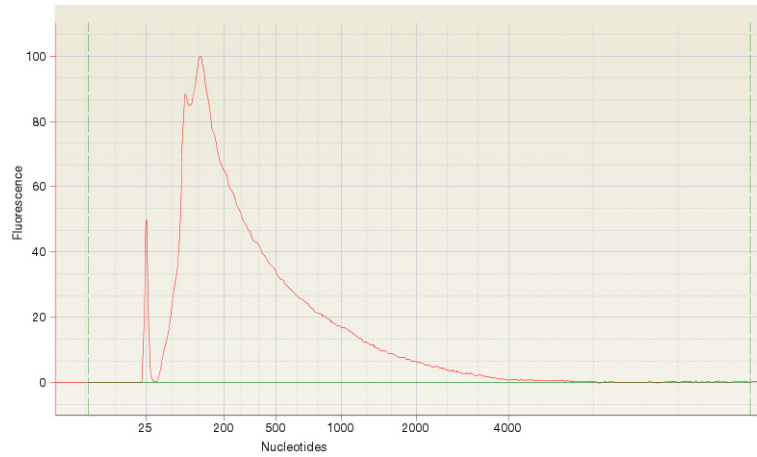

Figure 1 HeLa poly(A) RNA run on an Agilent 2100 Bioanalyzer after RNase III fragmentation and cleanup
Figure 1 and Figure 2 show profiles from an Agilent 2100 Bioanalyzer after RNase III fragmentation and cleanup. Figure 1 shows results with HeLa poly(A) RNA. Figure 2 shows results with rRNA-depleted HeLa RNA.